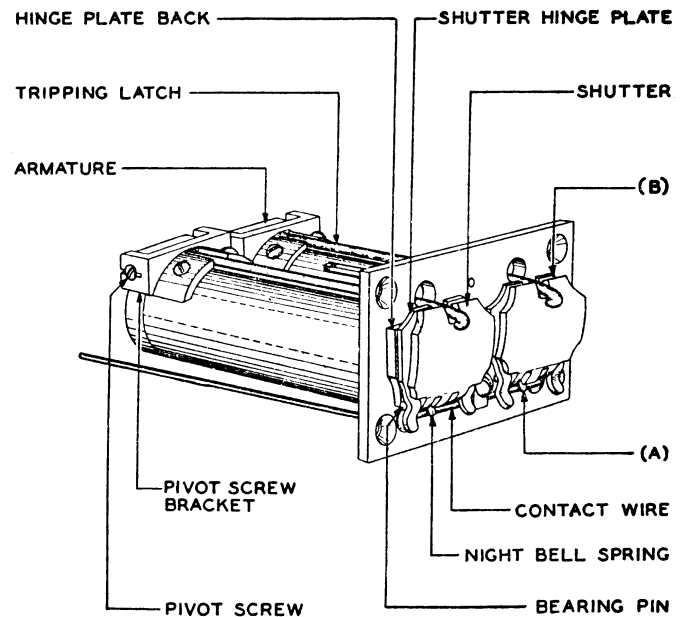

Fig. 1
1.04 Night Bell Spring Clearance — Fig. 1(A)
1.05 Shutter Clearance — Fig. 1(B)